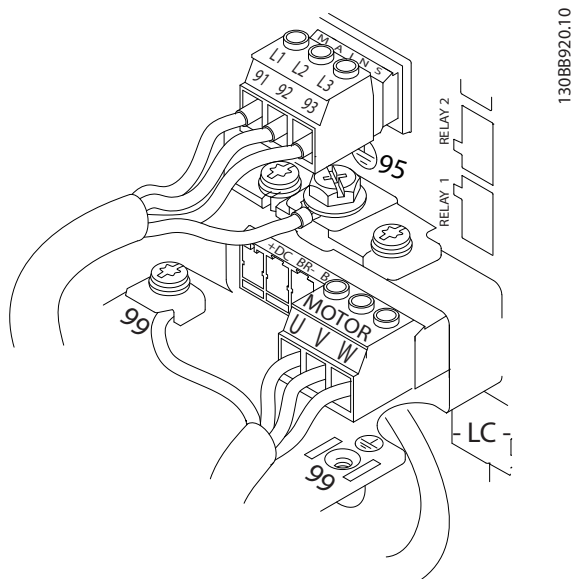

Figure 2.8 Example of Motor, Line Power and Ground Wiring
Figure 2.8 represents line power input, motor, and grounding for basic adjustable frequency drives. Actual configurations vary with unit types and optional equipment.
- Connect 3-phase AC input power wiring to terminals L1, L2, and L3 (see Figure 2.8).